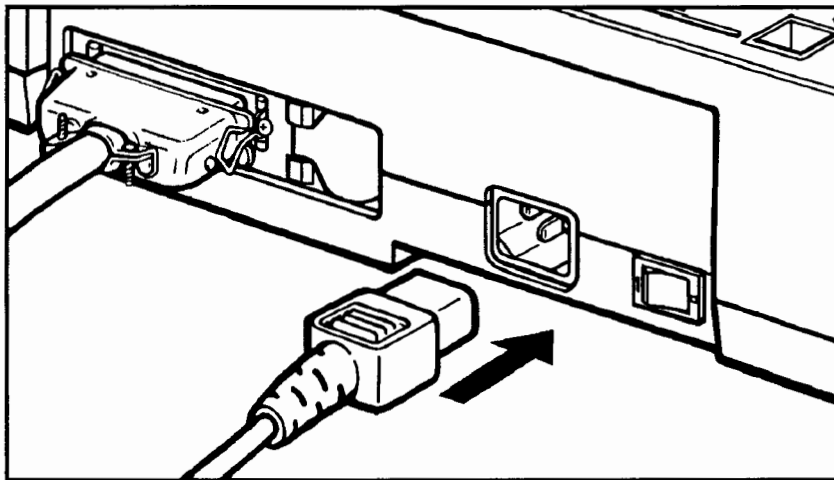

Figure 6. Connecting the Power Cord to ScanJet Plus
1. Attach the power cord to ScanJet Plus. See figure 6.